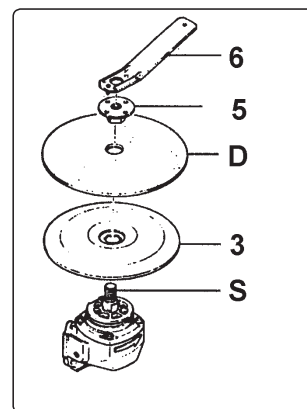

fig.2
4.1.1. To attach the rubber pad, fig.2:
4.1.2. To fit a sanding disc, fig.2: